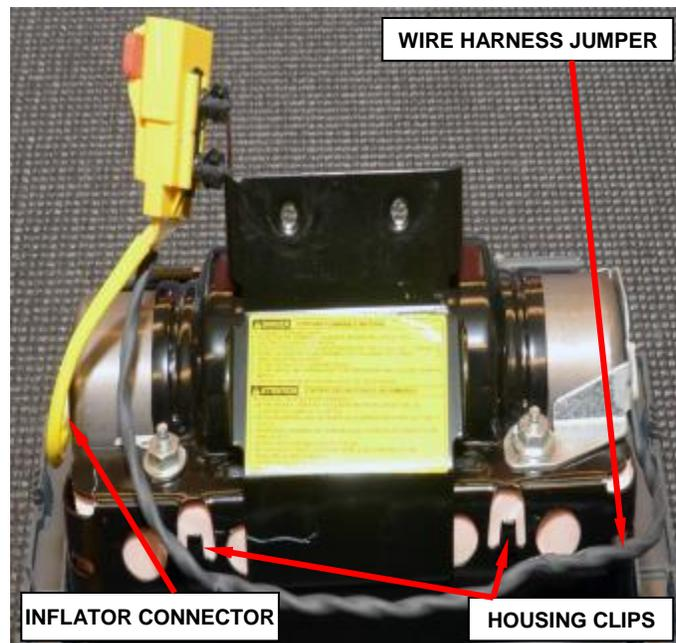

Figure 44 – Wire Harness Jumper
- b. Disengage the wire harness jumper from the housing clips in two places (Figure 44).
- c. Disconnect the single yellow wire inflator connector from the end of the inflator using pliers (Figure 44).
- j. Install the yellow three way wire harness jumper connector to the retaining clip (Figure 44).
- k. Connect the single yellow inflator connector to the end of the passenger airbag inflator (Figure 44).
- l. Engage the wire jumper to the housing in two places (Figure 44).